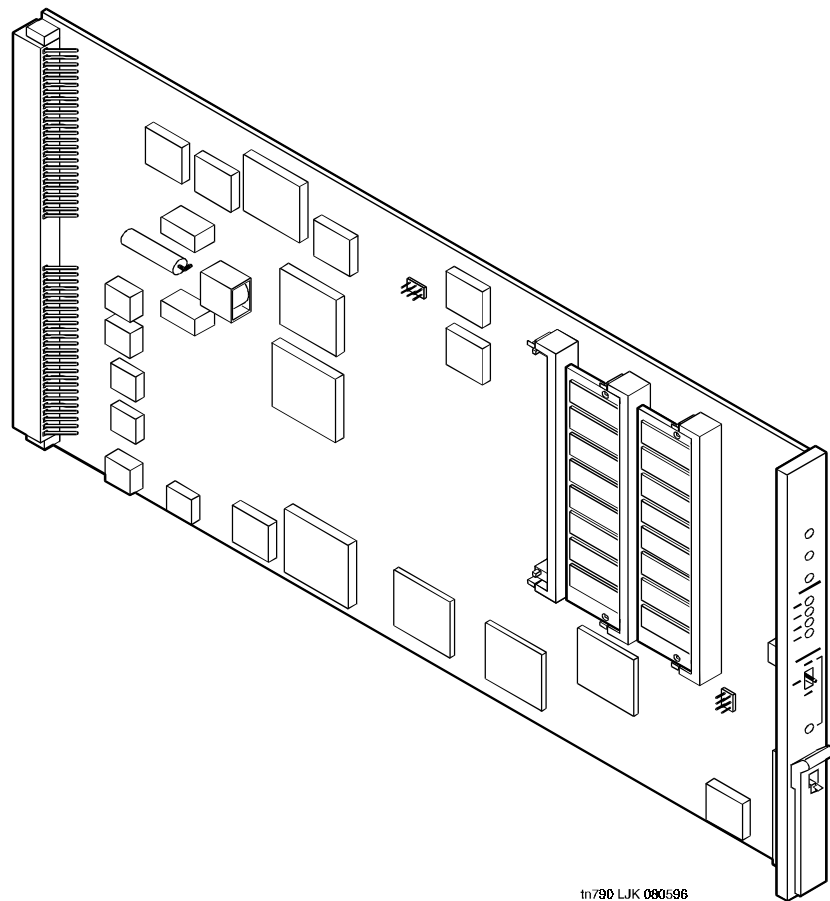

Figure 5-6. TN790 Processor Circuit Pack
2. For a Release 5si system, the TN790 should have two SIMMs. For a Release 5si + memory system, the TN790 should have three SIMMs. See Figure 5-6 for the location of the SIMMs.
See Figure 5-6 to locate the SIMM sockets on the TN790 processor circuit pack.
2. Place the TN790 Processor circuit pack on an ESD-approved work station with the SIMM sockets facing up, as shown in Figure 5-6.